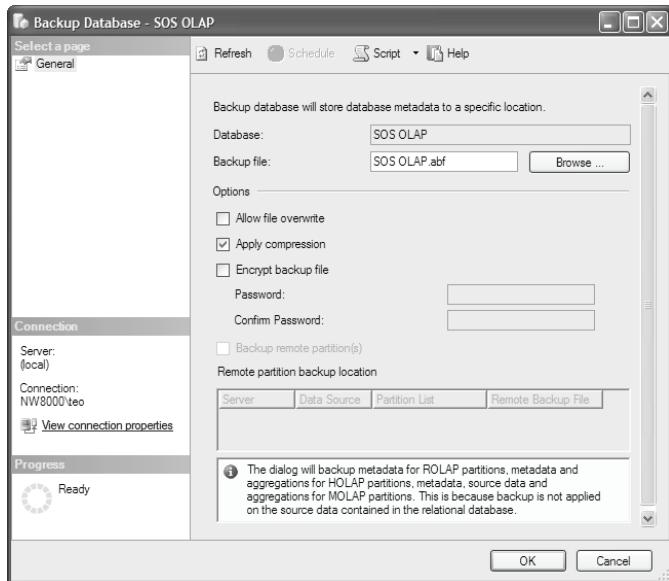

Figure 13.17 Make databases backups part of your regular maintenance schedule.
1. In the SQL Server Management Studio, right-click on the SOS OLAP database and choose *Backup*. The Backup Database dialog pops up (Figure 13.17).